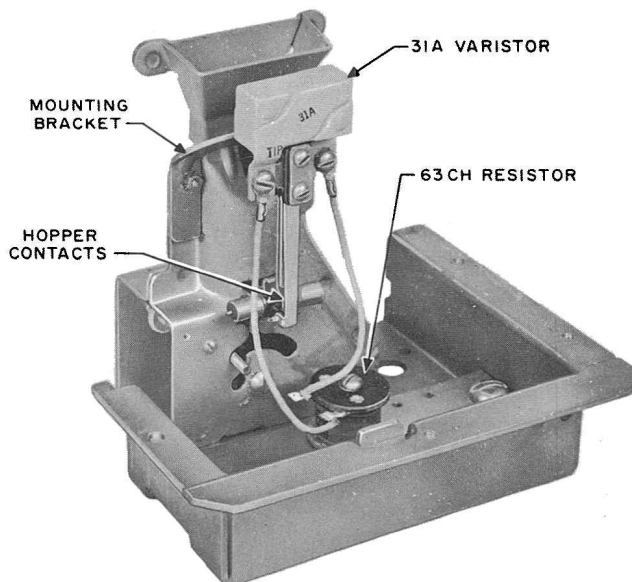

Fig. 1 — Older Mechanism Unit Assembly
4.04 On the older mechanism unit assembly, the 31A varistor and 63CH resistor are mounted as shown in Fig. 1.